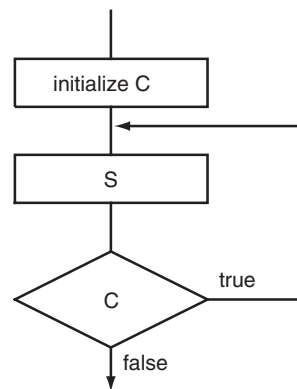

Figure 2.8 ■ The **Repeat ... Until** looping construct
4. **Repeat S until C.** The statement S is executed, and then the logical expression C is evaluated. If C is true, then the statement S will be executed again. Otherwise, the next statement will be executed, and the loop is ended. The action of this looping construct is illustrated in Figure 2.8. The statement S will be executed at least once. This looping construct consists of three steps: